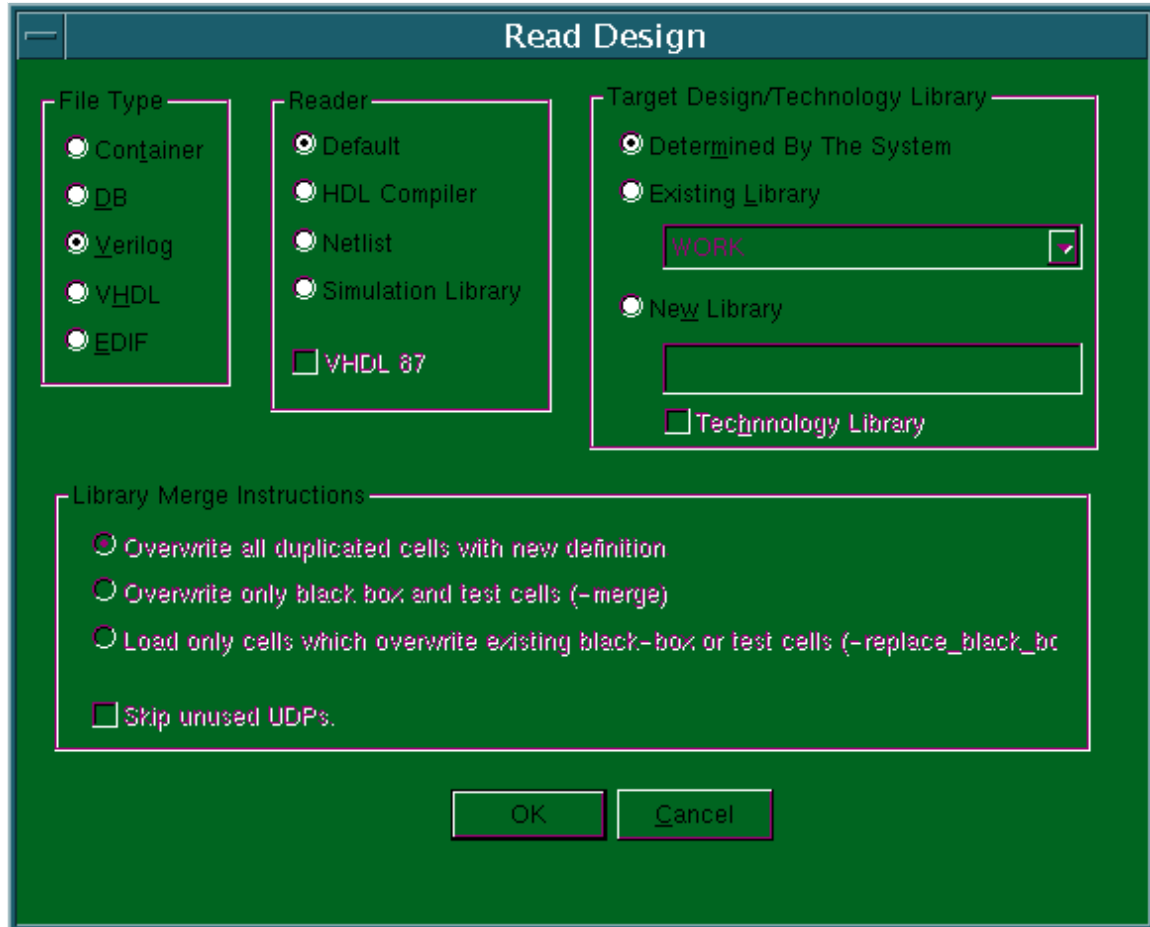

Figure 4: Read Design Options GUI
8. Select Open on the "Read Design" browser window (Figure 4).